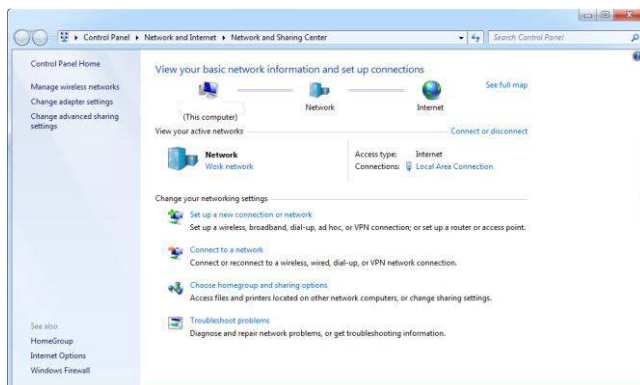

Fig. 2.2.9. Manage Wireless Network Setup Status
2. Click Control Panel and then click Network and Sharing Center. Refer to Fig.2.2.9